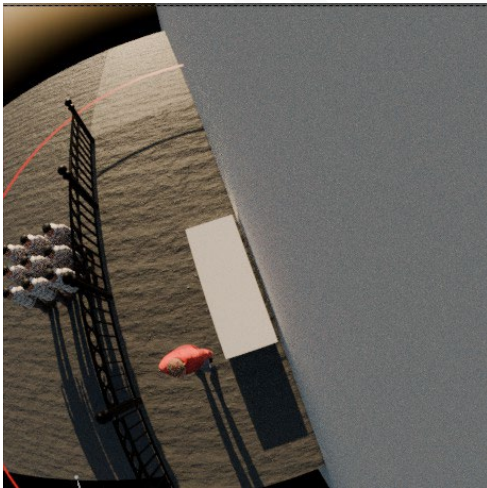

Figure 3: Commissioning suggestion
- A basic rule of thumb should be creating a commissioning area of 2.0 m x 2.0 m that could fit 9 people standing close to each other in 3x3 formation, as shown in Figure 3. It seems that DZ4 is smaller than this suggestion.